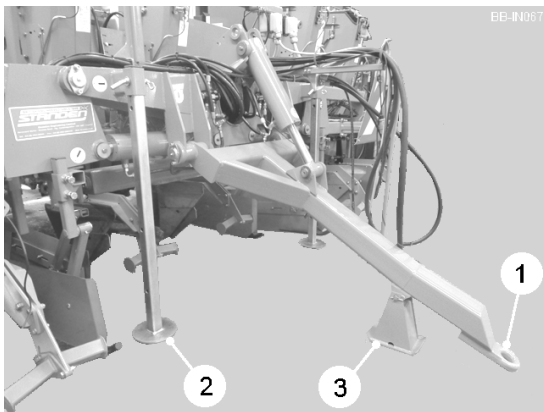

Fig 1
1. Reverse the tractor up to the planter and engage the drawbar eye (item 1, fig 1) on the tractor pick-up hitch.
3. Raise the parking stands (item 2, fig 1) and remove the stand (item 3, fig 1).